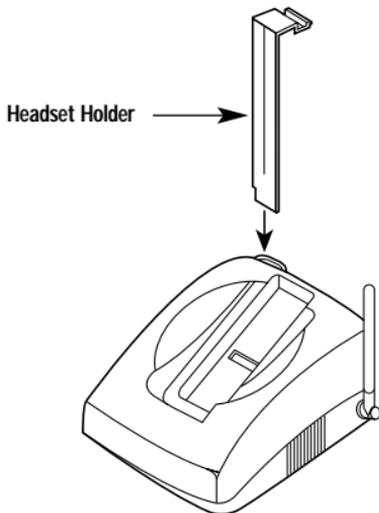

Figure 2-1. Connecting the headset holder to the base unit.
4. Connect the headset holder to the slot on the back of base unit (see Figure 2-1).